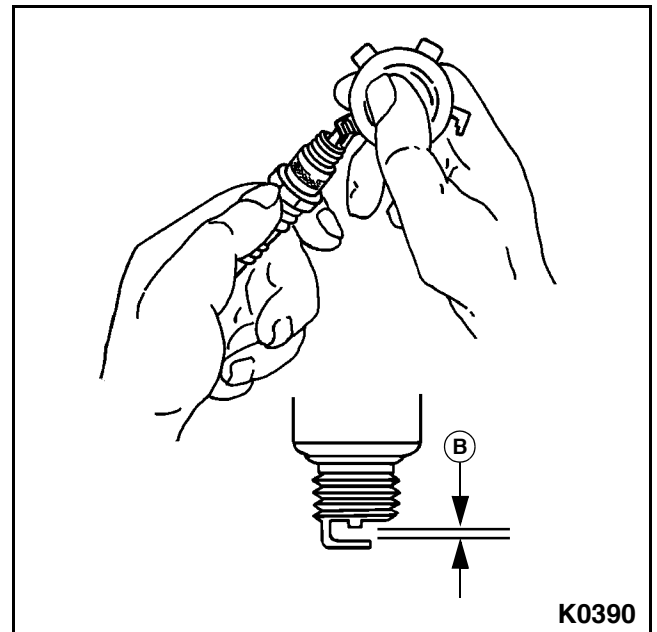

Figure 5-13
6. Use a spark plug gap tool to measure the gap (B) on each new spark plug. Adjust the gap to specification. See **Figure 5-13**.